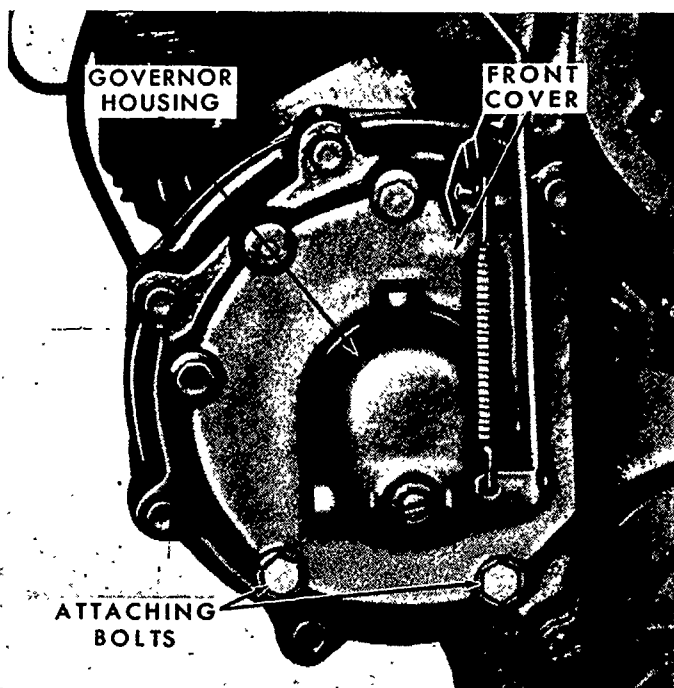

Figure 34
The gasoline engine governor is located inside the engine front cover, Figure 34. Linkage connects the throttle control, governor, and the carburetor together. All service work on the
1. Disconnect the governor lever linkage, Figure 34.
2. Remove the bolts and the governor housing from the engine front cover, Figure 34. Pry the governor housing from the engine front cover. Remove and discard the old gasket.